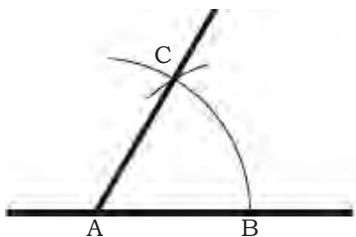

Fig. 1.8: Constructing an angle of 60°
1. Using a scale draw a straight line and mark point A on it as shown in Fig. 1.8.